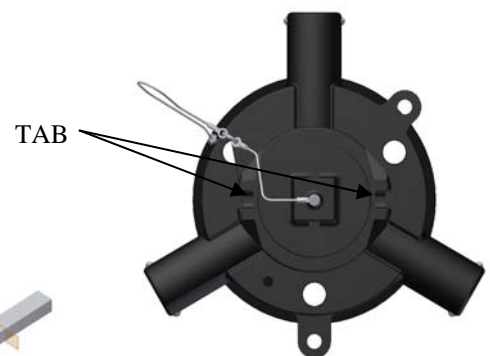

Figure 3
8. Using the SALCO Quick Inspect Wrench (Figure 2) – lay the wrench across the tabs (Figure 3) and make 1/4 turn.